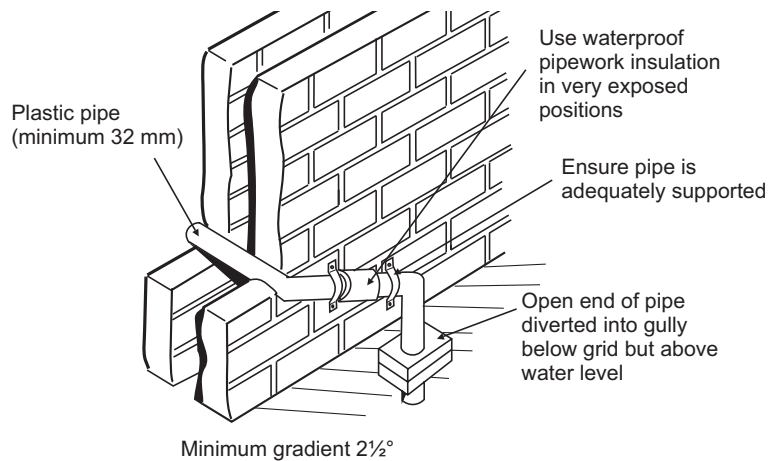

Fig. 4.6 - External gully
4.8 FILLING THE CENTRAL HEATING SYSTEM - Fig. 4.6
External pipe runs should be avoided, but if it is necessary, the pipework should be protected from the risk of freezing with waterproof insulation and the length should be kept to a maximum of 3 m and the condensate pipework should be increased to a minimum of 32 mm diameter. Termination should be into an external gully or soakaway as shown in Figs. 4.6 and 4.7.
Note: All pipework must have a continuous fall (see Figs. 4.6 and 4.7) from the boiler and must be of an acid resistant material such as plastic waste pipe. (copper or steel is not suitable).